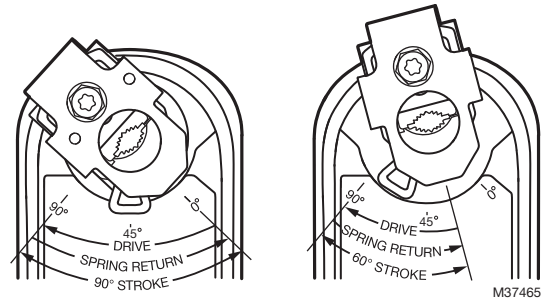

Fig. 5. Stroke reduction.
3. Rotate the coupling to the desired position, aligning it based on the stroke labeling. See Fig. 5.
EXAMPLE: Setting shaft coupling to an approximate fail-safe position of 30 degrees (as indicated on the housing) limits stroke to 60 degrees. (See Fig. 5.)